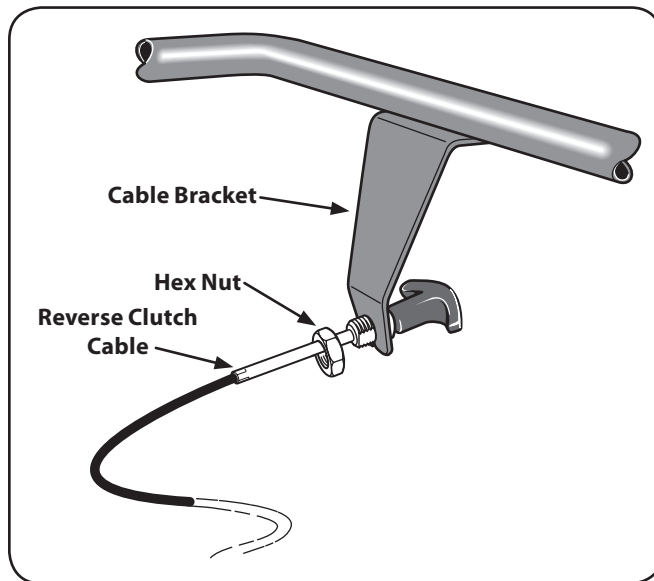

Figure 3-7
1. Unwrap the reverse clutch cable from its shipping position and route it up to the handlebar. See Fig. 3-7. Be sure that the cable is routed beneath the Forward Clutch Bail.